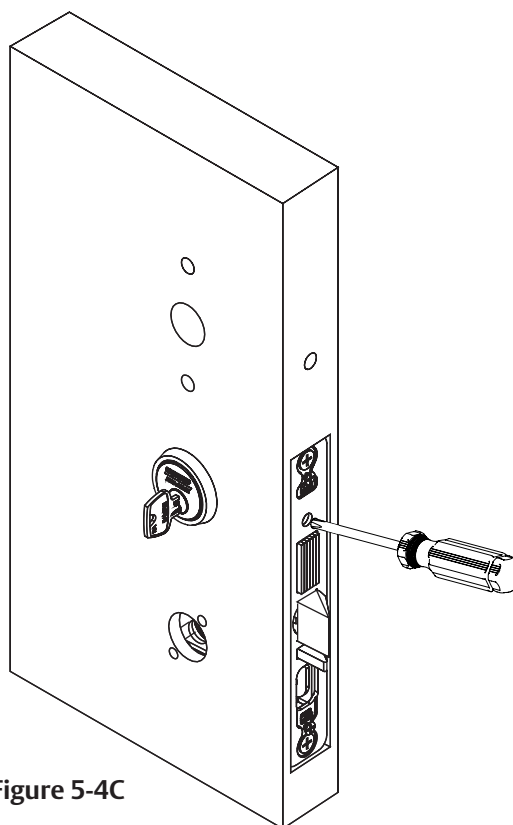

Figure 5-4C
5. Hand tighten the cylinder clamp screw with Phillips screwdriver to prevent unscrewing of the cylinder (Figure 5-4C).